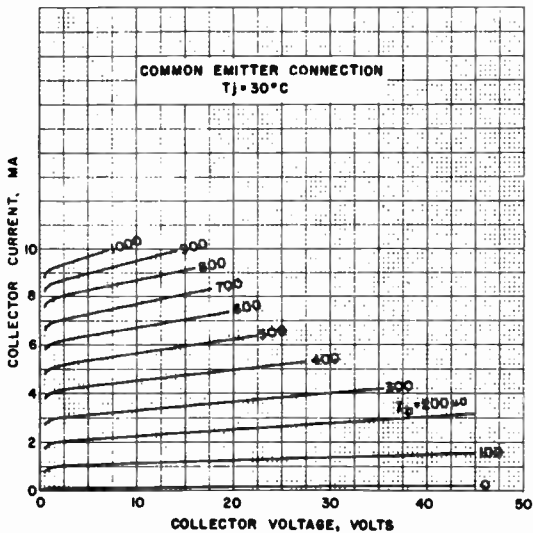

FIG. 10-16. CHARACTERISTIC CURVE FOR A TYPICAL TRANSISTOR.
**COMMON-EMITTER CHARACTERISTICS.** One of the best ways to arrive at a clear picture of the performance of any amplifier is to study its characteristic curves. In the common emitter circuit, the collector current  $I_c$  depends upon (a) the collector voltage and (b) the controlling base current. When the collector current that flows for various base currents is plotted against collector voltage, we obtain a graphic representation of transistor behavior in the common-emitter configuration. A set of curves for the typical transistor on page 192 is given in Fig. 10-16. The following information can be obtained from these curves:
- (1) As the collector voltage is increased, base current being held constant,